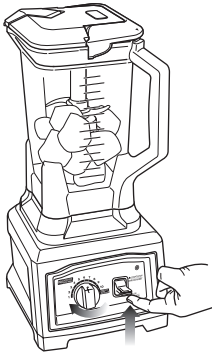

Fig. 6
- 8 Turn the Variable Speed Dial to speed 1. (Fig. 6) The power indicator light (ⓘ) will now turn on. To start the blender, press the "Start/Stop/Pulse" toggle up to start processing. Slowly increase to desired speed.